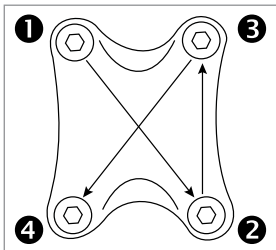
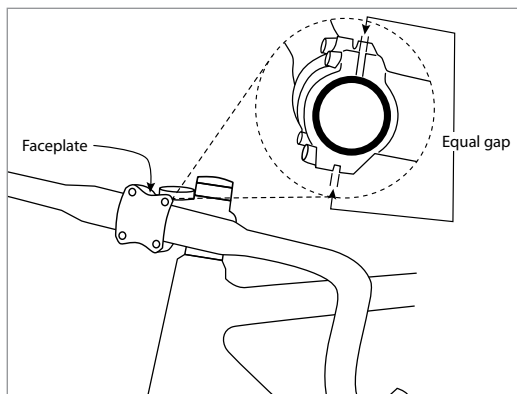

Figure 3
Figure 4
11. Alternately tighten the faceplate bolts following the tightening sequence in Fig 3. Turn each bolt in half-turn increments until they reach a torque of 5–8Nm. Do not exceed the lowest maximum torque rating marked on any of the components. Then check the upper and lower gaps between the front cap and the rear portion of the handlebar clamp to make sure they are equal (Fig. 4).